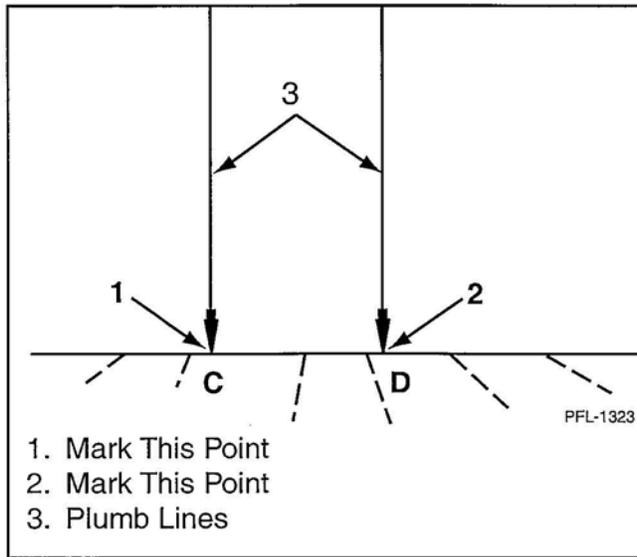

Figure 5
- Drop two points from upper level to lower level 12" from center line. See Figure 5.